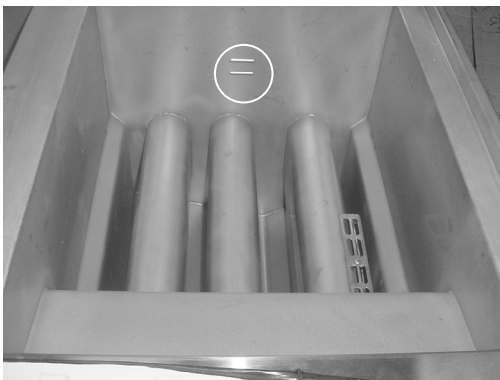

Figure 3-3
2. The gas open fryers require 90 lbs. (41 kg) of shortening per frypot, and the electric 80 lbs. (36 kg) per frypot. All frypots have 2 level indicator lines inscribed on the rear wall of the frypot. The top indicator shows the proper level of heated shortening; the bottom indicator shows the proper level of cold shortening. (See Figure 3-3)